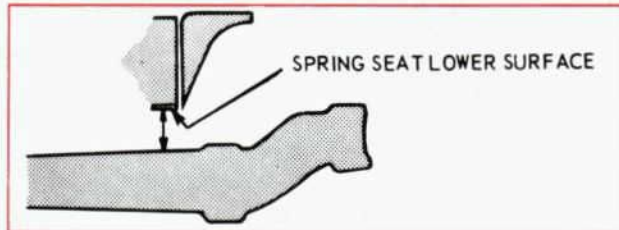
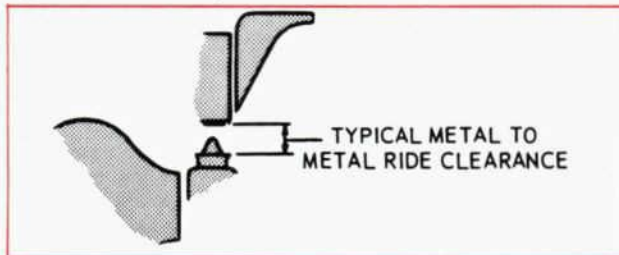

Figure 2—Econoline Spacer Blocks
Figure 3—Bronco Spacer Block
The equipment installation information for the Econoline and Bronco models is the same as for the trucks, except for the size of the spacer blocks. In checking the wheel alignment of 1969 Econoline E-100 and E-200 models, use a 2.8-inch spacer block; and for E-300 models a 2.6-inch block (Figure 2). For 1968 Bronco models use a 3.5-inch block (Figure 3). This applies to both sides of the vehicle.
Install a spacer block between each frame side rail and its respective front axle I beam to obtain the height shown in Fig. 2. and 3. Raise the frame or add weight to the front of the vehicle to make the side rails rest on the blocks.
- ② With blocks installed as shown in Fig. 2.
- ③ With blocks installed as shown in Fig. 3.